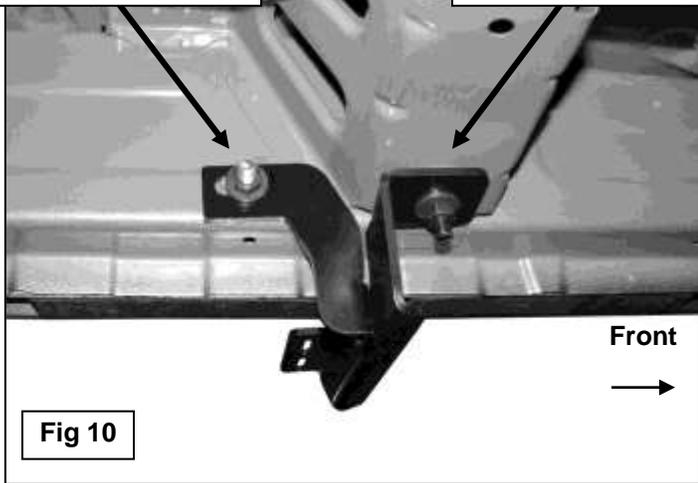

Fig 10
- c. Select the driver side Center Support Bracket. Secure the Support Bracket to the Bolt Plate with (1) 8mm Flat Washer, (1) 8mm Lock Washer and (1) 8mm Hex Nut, **(Figure 10)**.
- d. Bolt the Support Bracket to the back of the Center Bracket with (1) 8mm Hex Bolt, (2) 8mm Flat Washers, (1) 8mm Lock Washer and (1) 8mm Hex Nut. Snug hardware.